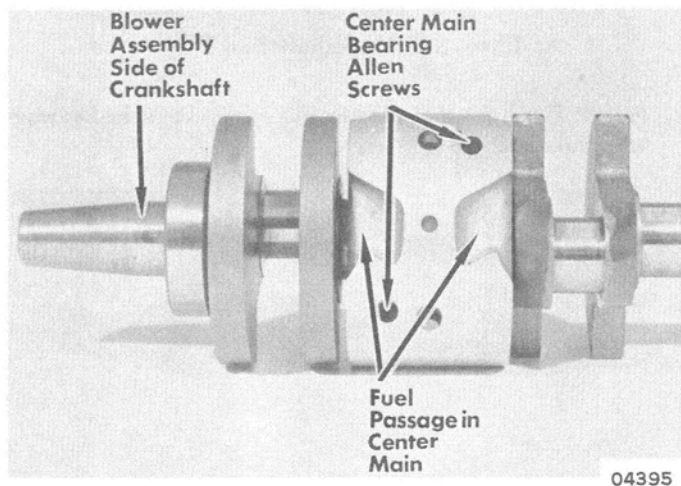

Figure 4. Bearing on Crankshaft
3. Press ball bearing on crankshaft from fan assembly end (short end) of shaft. (Figure 4)
- f. Before assembling center main halves to outer races of roller bearing, position halves so that fuel passage in center main will be positioned as shown in Figure 4 when halves are placed around outer races.